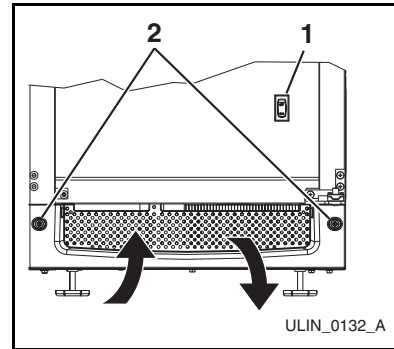

Figure 2
Proper air flow (Figure 2) is required for your unit to operate at its highest efficiently. A grille, located in the base of the unit, must not be blocked at any time, or your unit will not perform.
Open the door to access the power switch. It is located on the lower front panel (**Figure 2, 1**).
1. Remove the front grille (two screws) (**Figure 2, 2**).